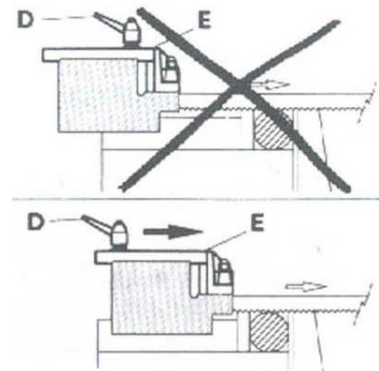

Fig.2
Your cutting machine is provided with a sliding guide(E) with built-in protection, which guides the part of the blade necessary to make the cut, and at the same time, protects the part of the blade not in use. To do this, simply slacken the handle (D) and slide the blade guide (E) so as to bring it closer to or farther from the piece that is to be cut (as clearly shown in fig.2).
- Slacken handle D (fig.2) and slide blade guide E as far as it will go, following the direction of the arrow in fig.2.